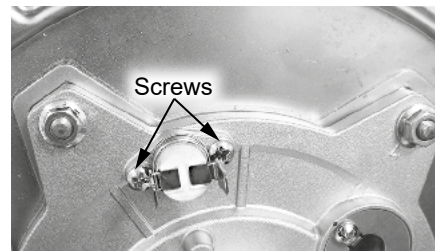

Figure 2 - Hi-Limit screw removal
5 Use a Phillips screwdriver to remove the two (2) screws securing burner door hi-limit to the burner assembly. Place screws aside in a safe place for reinstallation. See Figure 2.